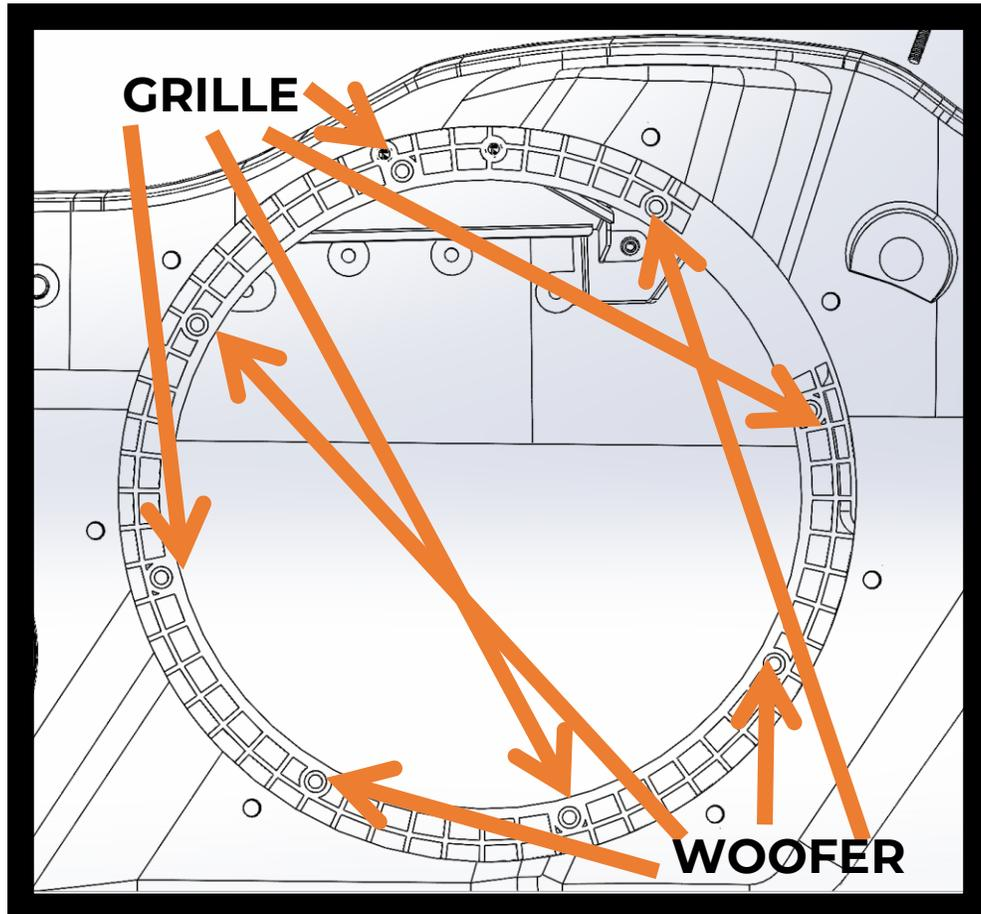

Figure 12 – Mounting Points
- Install metal grill mesh and plastic grille trim ring using remaining (4) M5 x 45 mm screws, see Figure 12.